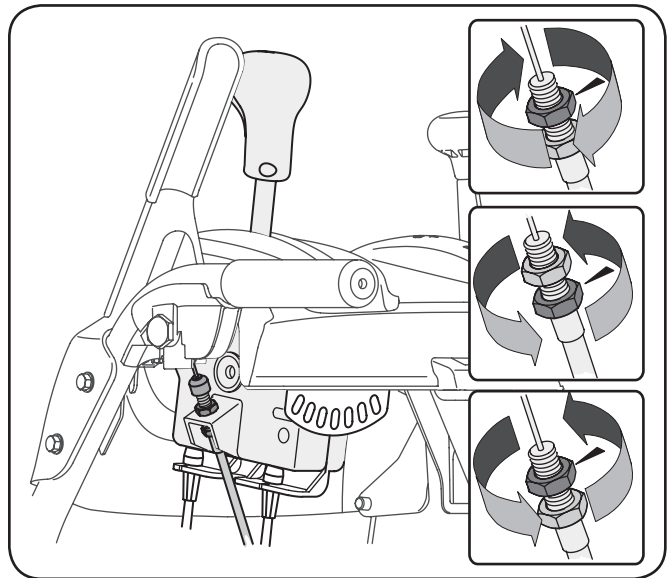

Figure 6-6
3. Repeat on the other cable adjuster until the chute assembly has full range from left-to-right. See Fig. 6-6.